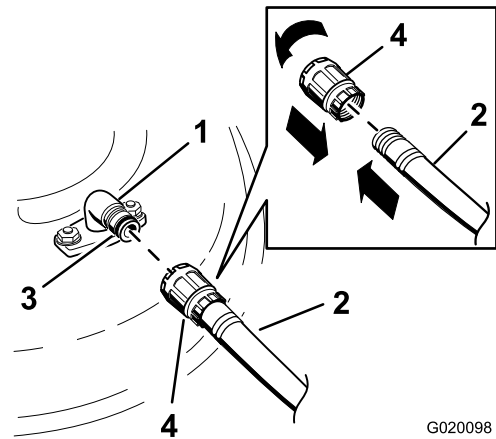

Figure 65
3. Attach the hose coupling to the end of the mower washout fitting, and turn the water on high (Figure 65).